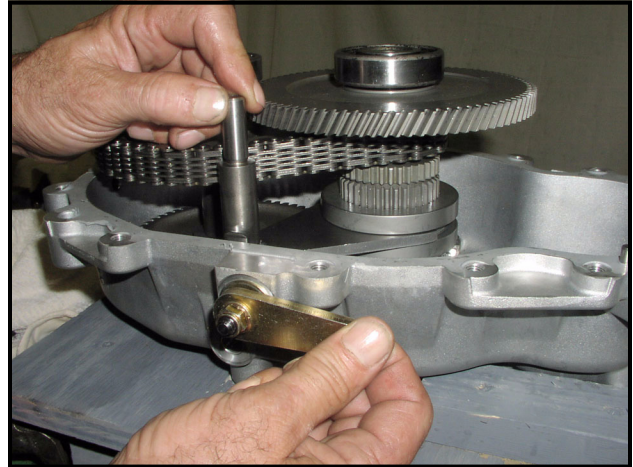

Figure 8-85 Engagement Fork and Gear in Position
8. Allow the engagement fork and gear to drop down to its lowest position, causing the shifter arm bell crank to rotate upward and rest parallel with the case edge (**Figure 8-85, Page 8-25**).